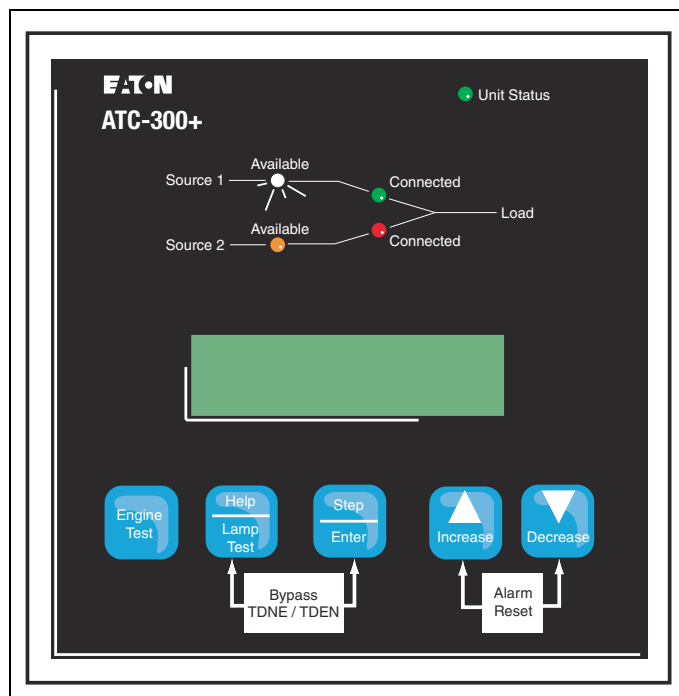

Figure 20. ATC-300+ Logic (Utility Supplying Load).
Step 5: Apply Utility (Source 1) power. If the switch is properly applied for the system voltage ordered, the display should work and the Source 1 Available white LED should light (Figure 20). Using a voltmeter, check for proper system voltage on Source 1 and load terminals. Check all phases on a 3-phase switch. Voltage measurements should be taken phase to phase and phase to neutral.